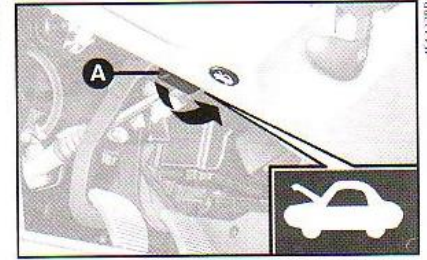

fig. 119
1) Puxar a alavanca **A-fig. 119** sob o painel.